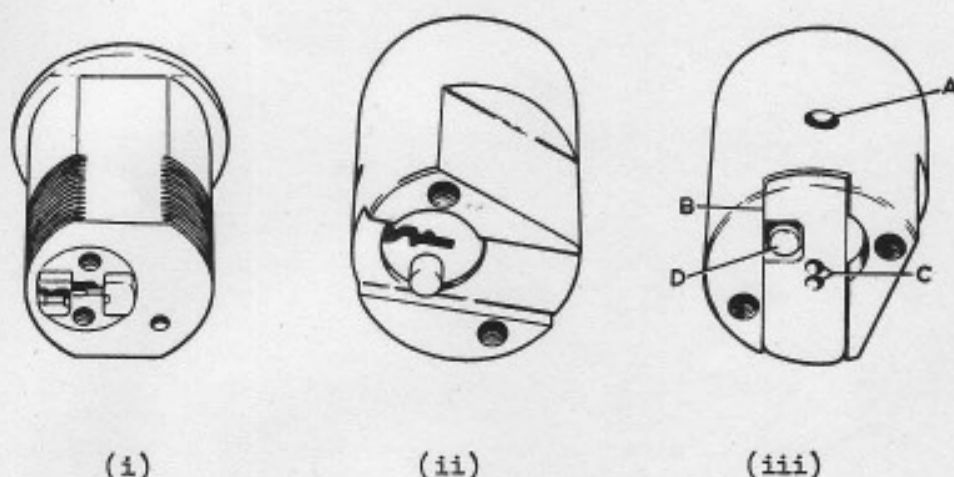

FIG. 3.
E. Mortice F. Mortice Locating Plunger (See Fig.3)
G. Mortice Operating Peg (See Fig.3)
Dismantle the lock until it is in the state as shown in one of the illustrations in Fig.3 taking care to note the order of dis-assembly. Note that locks (ii and iii) are boot locks and lock (i) is a door lock. Obtain a 2" length of metal rod $23/64$ " in diameter, (D Fig.1) a .0015" feeler gauge and a length of stiff wire.
Insert the wire through the hole in the lock body (A iii Fig.3) and push against the plunger which retains the barrel in the lock, slip the feeler between the barrel and the body, easing it between the plunger and the groove: this will enable the barrel to move lengthwise. Insert the key and push